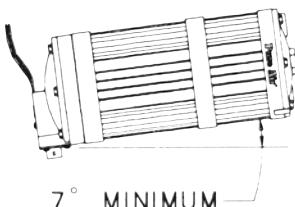

Figure 2.
1. The dryer can be mounted in any position from vertical to 7° off the horizontal (see figure 2).